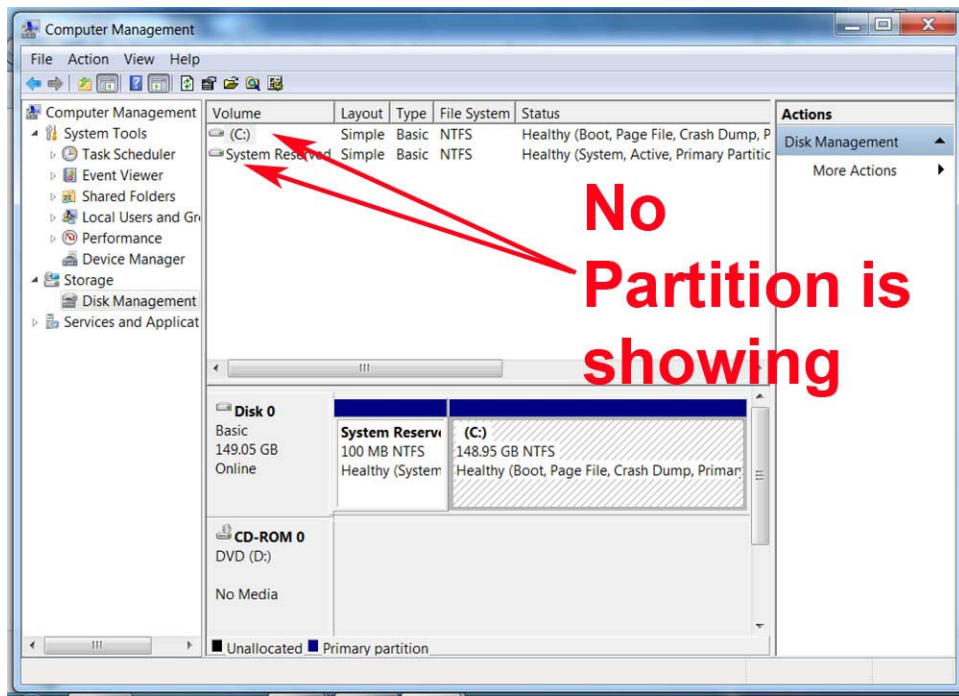

Figure 2 – View of Win7 DISK MANAGEMENT tool with no partition created yet
- In my case with a C: drive that is showing 150 GBytes for the total drive, I chose a partition size for the Ubuntu OS to be 20 GB. (see **Figure 2** for an initial view of using the Win7 **DISK MANAGEMENT** tool)